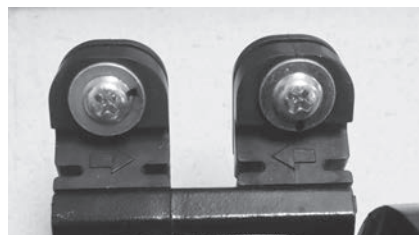

Figure 187 - Water pump gasket boot orientation
- 25 Remove the four (4) gasket boots with screws from the old water pump by sliding them out of the brackets. Note orientation of gasket boots for proper installation to new water pump. See Figure 187.
- 29 Dip the ends of the four (4) gasket boots in water and slide them into the brackets on the new water pump. The water will help gaskets slide smoothly into brackets. Directional arrows on gasket boots must be pointing inward toward one another. See Figure 187.